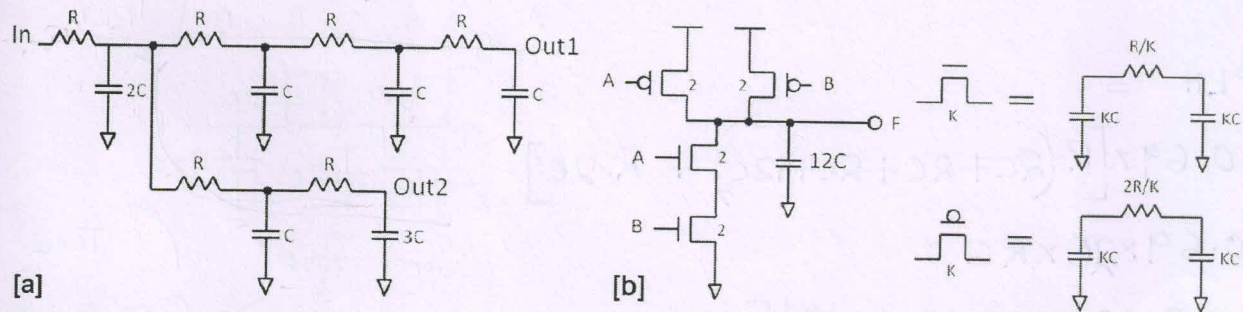

Fig. 1. (a) A RC network; (b) 2-input NAND gate and corresponding NMOS and PMOS transistor models.
- (a) Given the RC network in Fig. 1(a), calculate the Elmore delay from **In** to **Out1** and from **In** to **Out2**. Which one is critical path? *delay in worst case for*
- (b) Calculate the T_{PLH} and T_{PHL} of a two input NAND gate shown in Fig. 1(b) using logical effort *assuming proportionality factor $\gamma = 1$ for submicron process. $\mu_n, \mu_p = 2:1$*
- (c) Calculate the T_{PLH} and T_{PHL} of the same two input NAND gate shown in Fig. 1(b) using Elmore delay.